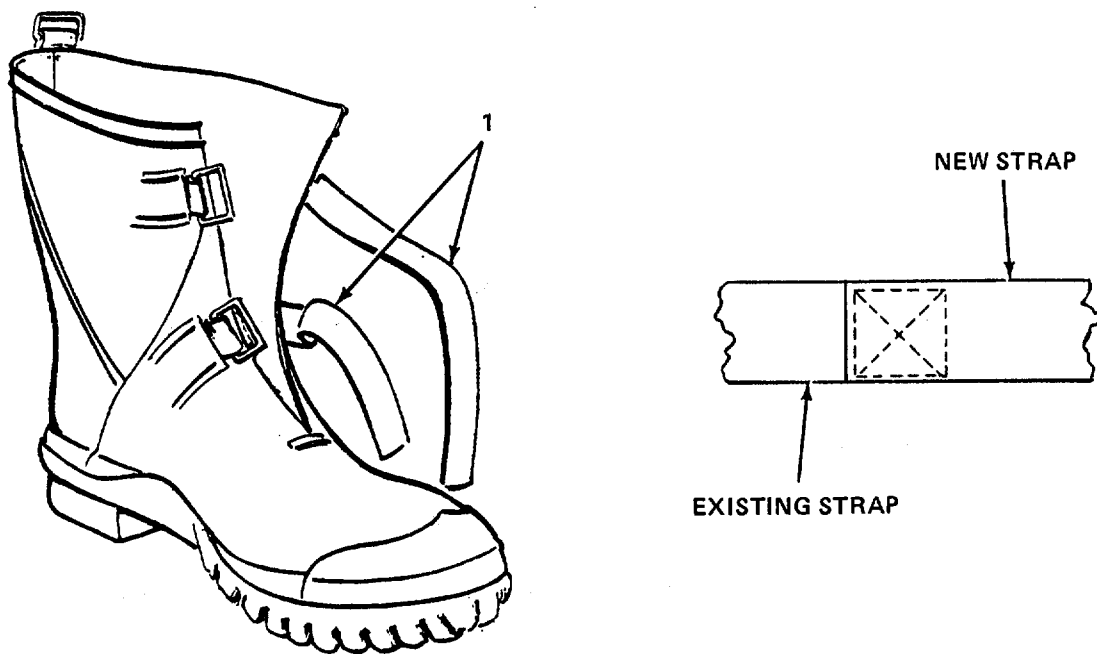

Figure 4-4. Straps, Repair.
- (1) *Replace straps.* (figure 4-4)
- (a) Cut strap (1) off immediately behind frayed part or broken end.
- (b) Cut a length of strap (1) from provided spares equal to the length removed plus one inch.